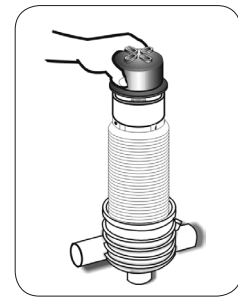

FIGURE 8
- Replace the tightening cylinder and tighten the butterfly nut until it stops - do not overtighten (Figure 8, 9).